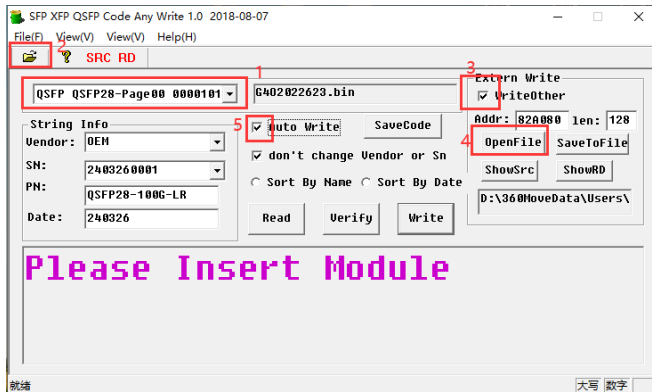

Figure 25
4.1 Select the configuration file "QSFP QSFP28-Page00 00001011" corresponding to the 100G LR optical module with the password "00001011" (as shown in Figure 25)
4.2 Click  Or select the menu: File->Select Code Source Folder, select See below, choose the folder where you saved the codes, Click OK. (as shown in Figure 25)
4.3 Check the “WriteOther” box (as shown in Figure 25)
4.4 Click "OpenFile" and select the Page02 file that needs to be written (as shown in Figure 25)
4.5 Check the "Auto Write" box (as shown in Figure 25)